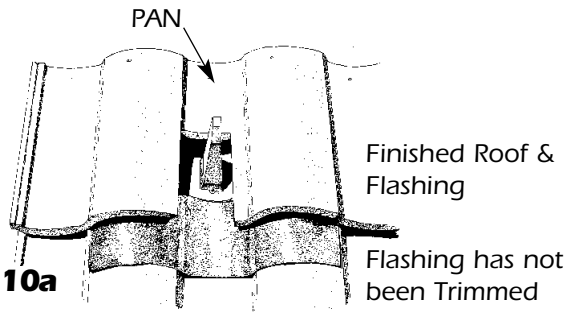
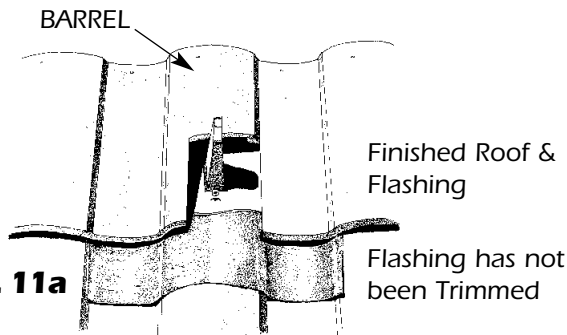

Fig. 10a
Fig. 11a
The amount of anchor stem visible after flashing depends on the anchor position relative to the tile pan (Fig. 10a & 10b), or barrel section (Fig. 11a & 11b). It is recommended that at least 50% of the anchor attachment hole is visible above the flashing boot, so a lifeline may still be attached by pushing the flashing boot down slightly.
5) Depending on customary methods, the finished opening around the flashing boot should allow sufficient room for the stem cover to be attached / removed easily. **Fig.10a.**